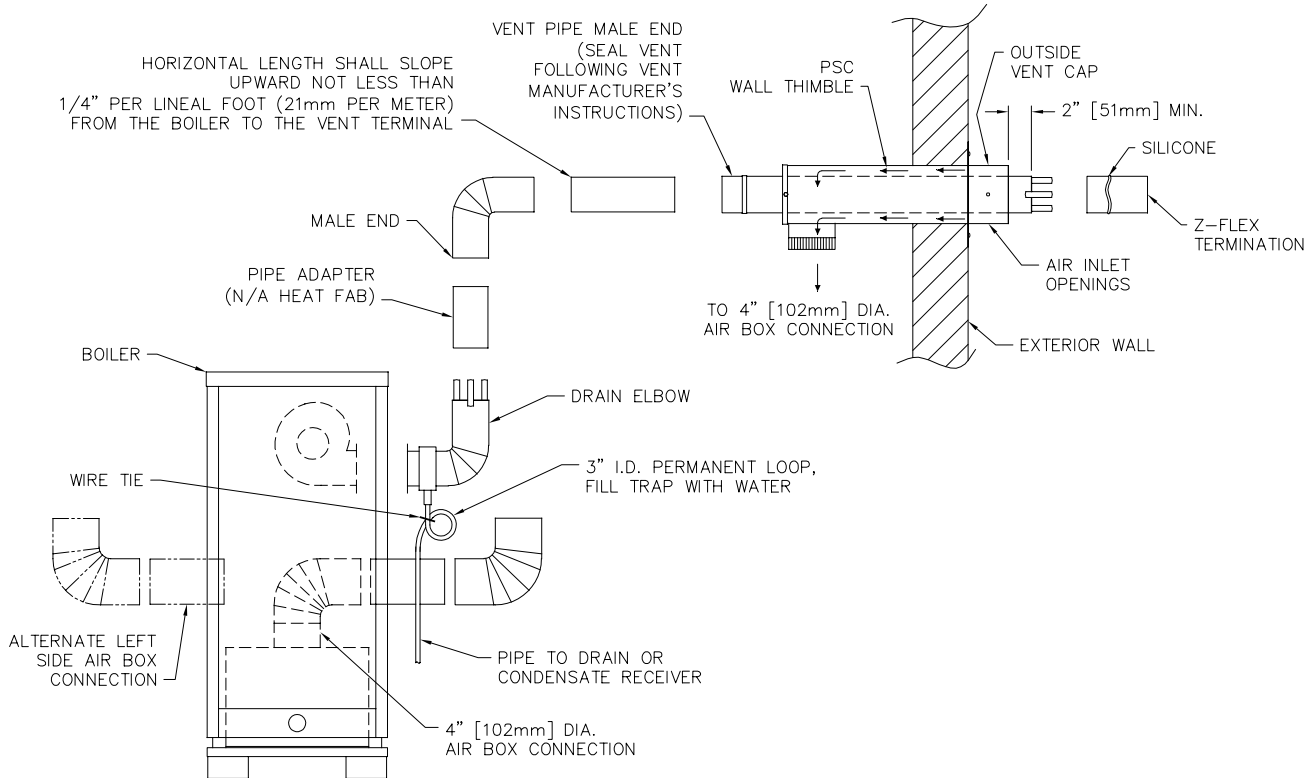

Figure 4.2: Side Wall Venting System
15. Attach Z-Flex #2SVSTPF03 terminal to protruding vent pipe. Refer to Figure 4.2. To attach to HEAT-FAB pipe, insert into pipe end and fold over tabs to secure. Otherwise, silicone terminal to vent pipe.
Locate condensate hose and cable tie in Accessory Carton. Connect hose to drain fitting on condensate elbow. Form a 3" diameter loop and secure with cable tie. Fill loop with water. Pipe to drain or condensate receiver. See Figure 4.2.
- Use only 3" (76 mm) diameter Type AL29-4C stainless steel vent pipe and fittings for venting of flue gases from the boiler. When using other than Heat-Fab vent pipe, an adapter must be installed on the outlet of condensate elbow. See Figure 4.2. Adapter part numbers are as follows: